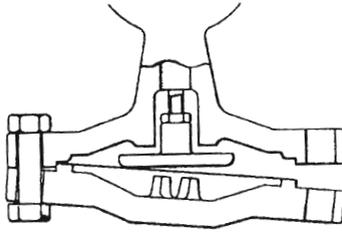

Figure 8 : Positioning the diaphragms
2. Undo long union nut (27) and pull it away.
3. Undo the 1/2" nuts and bolts (26) and drop away the lower diaphragm chamber (29), and two stainless steel diaphragms (28) and the main diaphragm plate and push rod assembly (24)
5. Replace the main diaphragm plate and push rod assembly (24) and loosely refit lower diaphragm chamber (29) on the two bolts either side of the union connection, (see fig 8) so that the spigot is located in to the recess. Also ensure that the connecting stainless steel pipework is located in to its fitting.
6. Bring the two main diaphragms in position, first easing the diaphragm plate upwards to clear, (see fig 8.)
7. With the main diaphragms in position, push the lower diaphragm chamber home to locate in the recess and refit the 1/2" nuts and bolts (26). Tighten to a torque of 70 Ft-Lbsf.